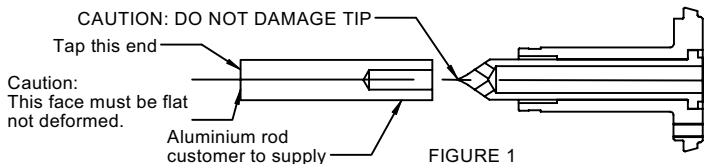

FIGURE 1
- 4) While hot, remove plastic from front of tip, then use an Aluminum rod (as shown in figure 1), tap end of rod to press tip out of back end of nozzle body.